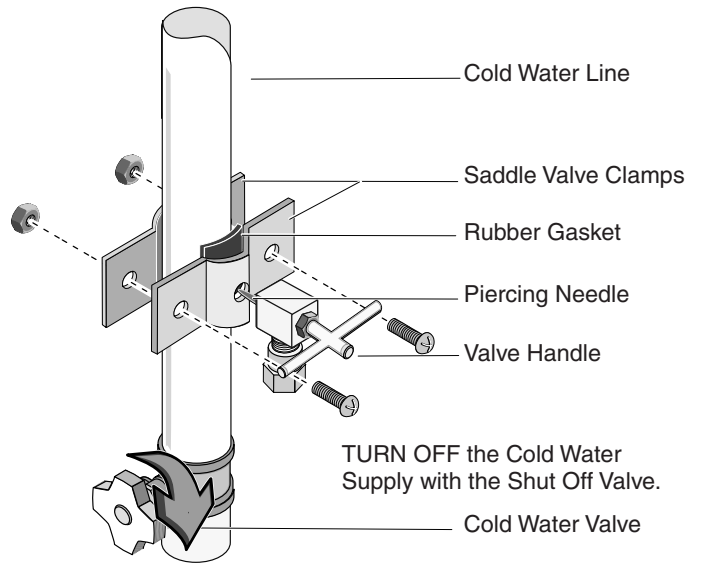

Figure 5
Install the saddle valve; See Figure 5.
9. Install the saddle valve on the cold water line as shown in Figure 5.